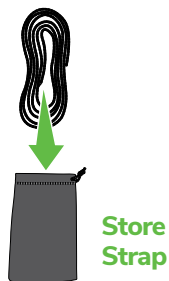

Figure 19
Step 3. Roll up excess strap and store in the storage pocket provided on the cover (Figure 19).